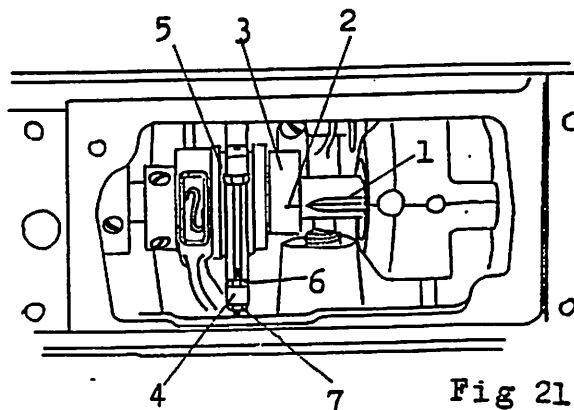

Fig 21
When adjustment is required, use the following procedure to change the position of the cam(3, Fig 21):
2. Normally put the reference line(2, Fig 21) of the cam(3, Fig 21) on the V ditch(1, Fig 21) of the arm shaft.
3. Turn the machine pulley to place the needle at 1mm up from its lowest point and moving the reverse stitching lever(D, Fig 1) up and down, turn the cam(3, Fig 21) and set this at the point both the needle and the feeder rest.
Incorrect clearance between the fork(4, Fig 21) of feed forked connection and feed fork collar(5, Fig 21) will bring irregular stitch length or overheating, etc.
1. To increase the clearance, loosen the screw (6, Fig 21) and turn the screw(7, Fig 21) clockwise.
To decrease the clearance, loosen the screw (7, Fig 21) and turn the screw(6, Fig 21) counter-clockwise.